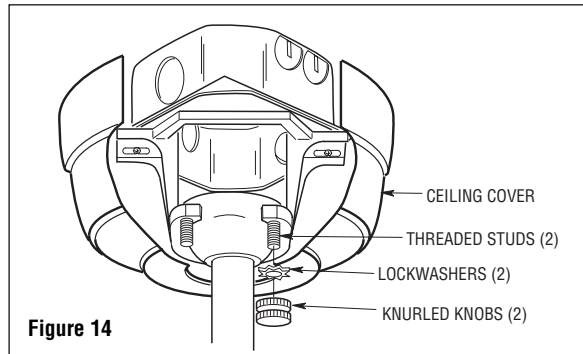

Figure 14
6. Lift the ceiling canopy up to the threaded studs and turn until studs protrude through the holes in the ceiling canopy (Figure 14).
7. Secure the ceiling canopy in place by sliding lockwashers over the threaded studs and installing the two knurled knobs (supplied). (Figure 14). Tighten the knurled knobs securely until the ceiling canopy fits snugly against the ceiling and the hole in the ceiling canopy is clear of the downrod.